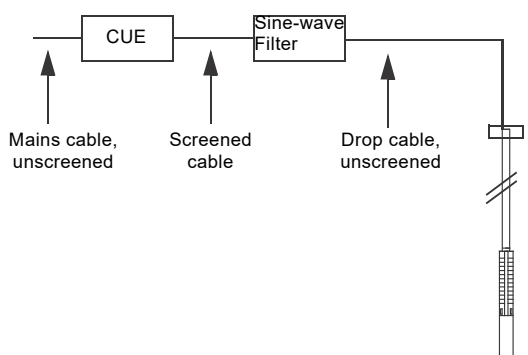

Fig. 14 Example of normal installation
- installation in EMC-insensitive sites. See fig. 14.